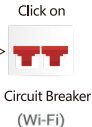

fig 5
10.1 Direct scan figure 5 Installation.